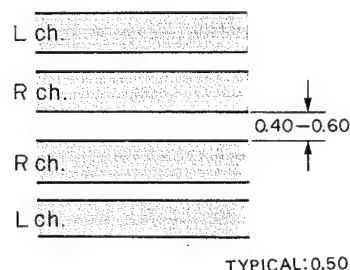

Fig. 5.15 Record Head Track
- (1) Load the Reference SX tape (DA09025A), set the TEST TONE SW to ON position and TAPE SELECTOR SW to the TAPE position. Set to record mode and adjust record head azimuth alignment screw D until the alignment beacon started flickering alternately.
- (2) Aligning Step (1) as above, align the screw F to obtain maximum reading of both channels.
- (3) Record the same portion of the both A and B sides of the tape after record head azimuth is aligned.
- (4) Immerse the recorded tape in a magnetized developing solution. In turn, check to insure that the recording head tracks across the center are separated with a distance of 0.4 to 0.6 mm typically 0.5 mm as illustrated in Fig. 5.15.